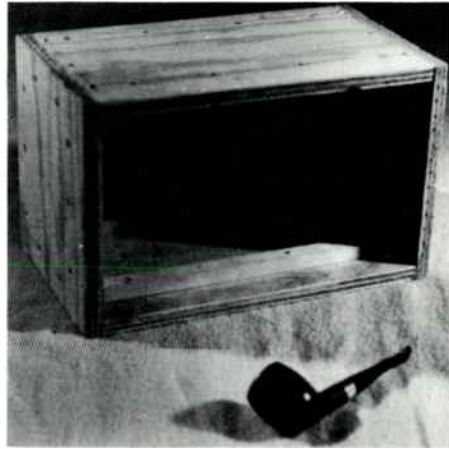

Fig. 3. Assembled panels.
9. Lay the enclosure face down on a table and glue the back in place. Use a square and adjust the enclosure so that the top and side form a right angle. Nail a couple of brads through the back panel to hold this angle while drilling the pilot holes through it and while driving the screws. Figure 3 shows the assembled panels.